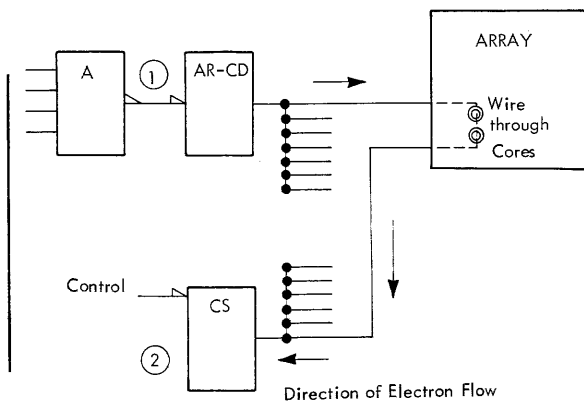

Figure 2-24. Current Switch Circuit
Figure 2-24 shows the use of the current switch in the control of a series flow of current through more than one circuit. A negative signal at ① causes current to flow in the array, provided the control signal is negative at ②.